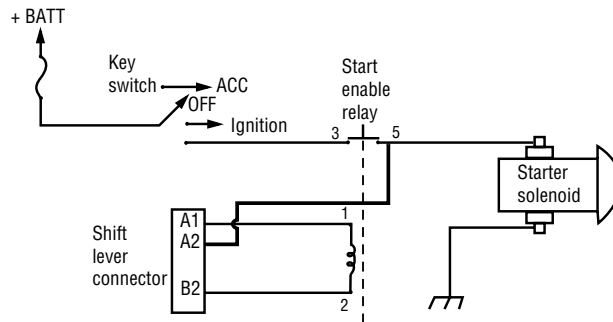

Figure 1:
1. Make sure starter solenoid circuit is wired as shown in figures 1 and 2.